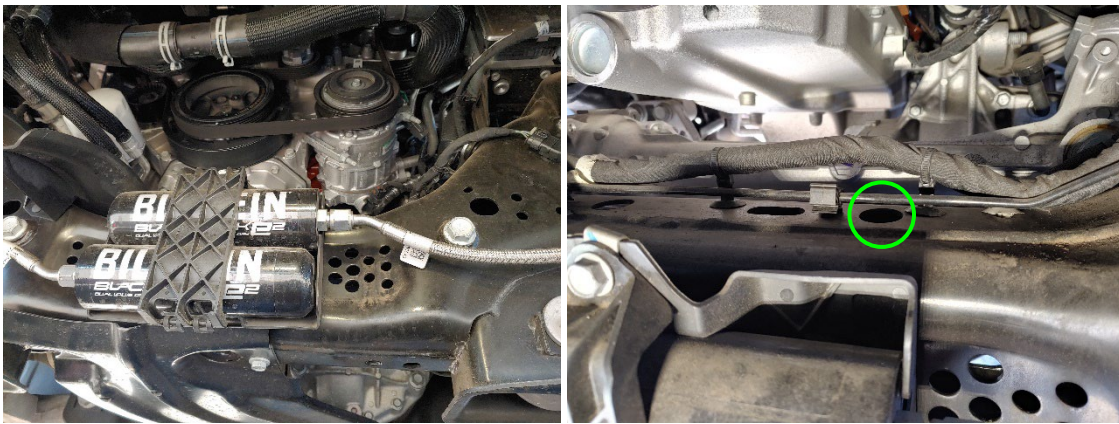

Figure 22- Primary Crossmember (Left) & Top View of Crossmember (Right)
- b. The bracket should be placed over the highlighted hole (Ref. Figure 22 Right) on top of the crossmember and sit next to the mounted shock reservoirs (Ref. Figure 23).